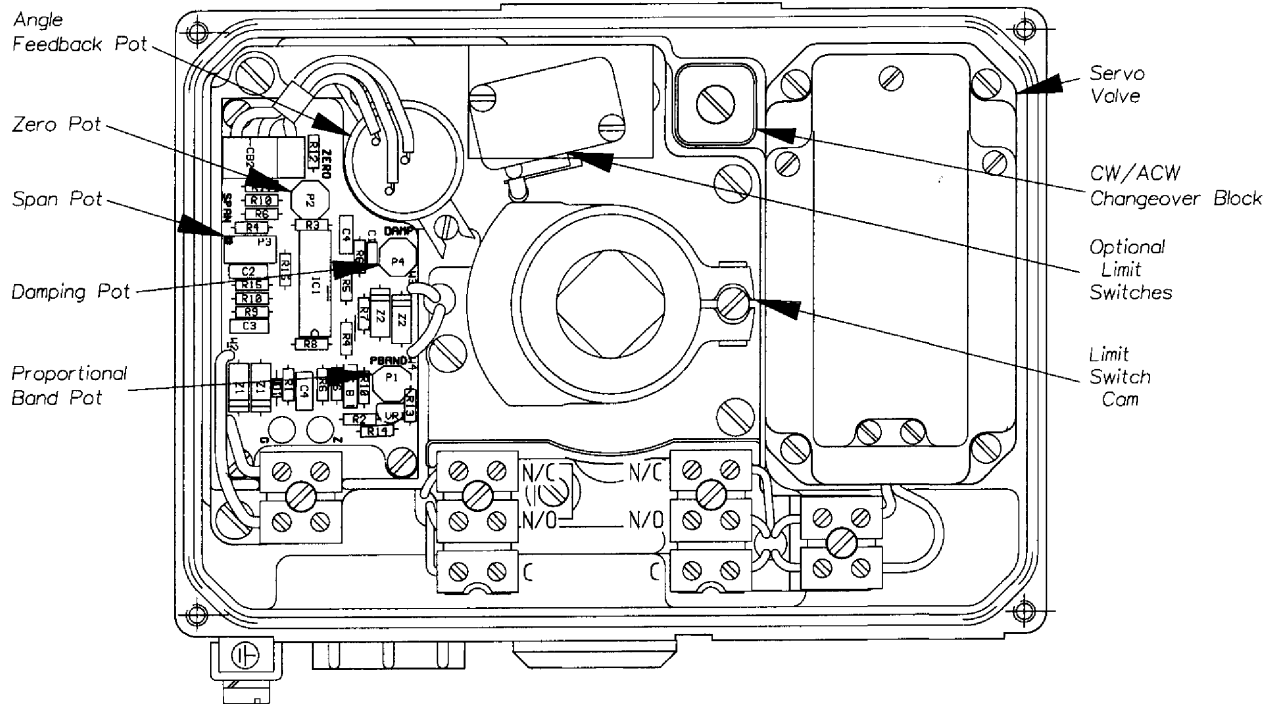

FIGURE 6. CONTROL ADJUSTMENTS, INTRINSICALLY SAFE VERSIONS. OPEN BOX, TOP VIEW.
Adjust the proportional band and damping potentiometers (see Figure 6) to optimize the sensitivity and smoothness of the positioner. With the proportional band pot, you can maximize sensitivity and accuracy, but at the cost of increased jerkiness of response when the signal is ramped smoothly, or you can maximize smoothness at the cost of losing rapidity of response to small changes in signal. When you are happy with the proportional band setting, adjust the damping pot to just avoid overshoot when the signal is stepped suddenly so that the positioner approaches set point at full speed having travelled 45 degrees or more. Try this travelling up and down scale.
Adjust the span and zero pots to give exactly the travel you require from your 4-20mA signal. Span and zero should be set last of all because they are affected by adjustments to the proportional band setting. Big adjustments in zero setting are best carried out by centring the fine zero pot (blue preset on the PCB - see Figure 6), and rotating the the main angle feedback pot having relaxed its clamp screws - avoid undoing the screws too much so that you maintain engagement with the nuts on the other end, and retighten them when you have finished setting the pot position. Adjust the zero setting first, with the signal at 4mA, then the span setting with the signal at 20mA - it may be necessary to repeat this 2 or 3 times to get both set right. The positioner needs a minimum of 3.8mA in order to function correctly (i.e. to supply enough loop power to drive it) - therefore do not aim to position with a signal below 3.8 mA.
- (1) Disconnect air supply and signal.
- (2) Undo screw holding down changeover block (see Figure 6).
- (3) Rotate changeover block 90 degrees, taking care to keep rubber gasket lined up with holes in body.
- (4) Re-tighten screw holding down changeover block.
- (5) Undo outer two angle pot wire terminal screws, and swap blue and yellow wires over to reverse sense of pot connection; re-tighten screws.
- (6) Re-connect air supply and signal, and re-zero positioner by unclamping angle pot and rotating pot to give correct travel for 4-20mA signal. Avoid undoing clamp screws too much so that you maintain engagement with the nuts on the other end. Re-tighten screws when pot is positioned correctly.